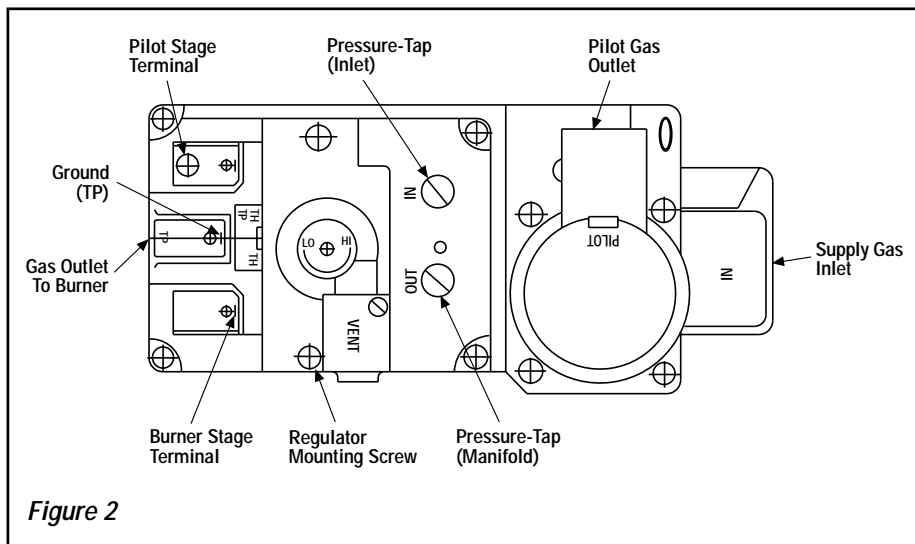

Figure 2
**Step 4. DEXEN Electronic Valves** - See *Figure 2* and the instructions provided with the kit. Remove and discard the two pressure regulator mounting screws. Remove the pressure regulator and diaphragm. Discard all removed components. Ensure the provided diaphragm is installed properly onto the replacement pressure regulator and install the new pressure regulator using the new screws supplied with the kit. Tighten screws.